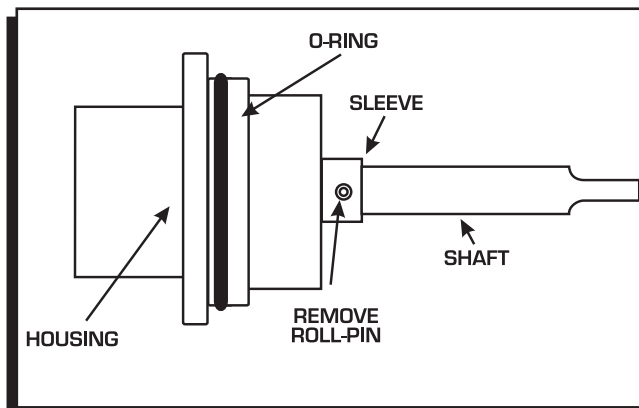

Figure 7 Removing the Retaining Sleeve.
3. Remove the roll-pin from the shaft and slide the retaining sleeve down (Figure 7).